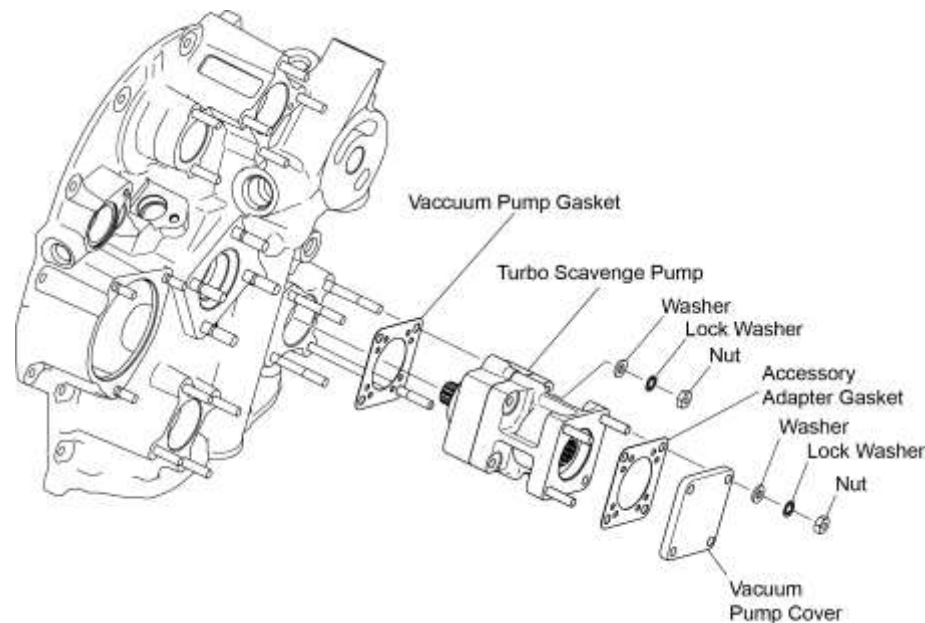

Figure 5
- A. Remove the four nuts, lock washers, and washers from the studs attaching the vacuum pump cover to the turbo scavenge pump (Figure 5). Discard the lock washers.